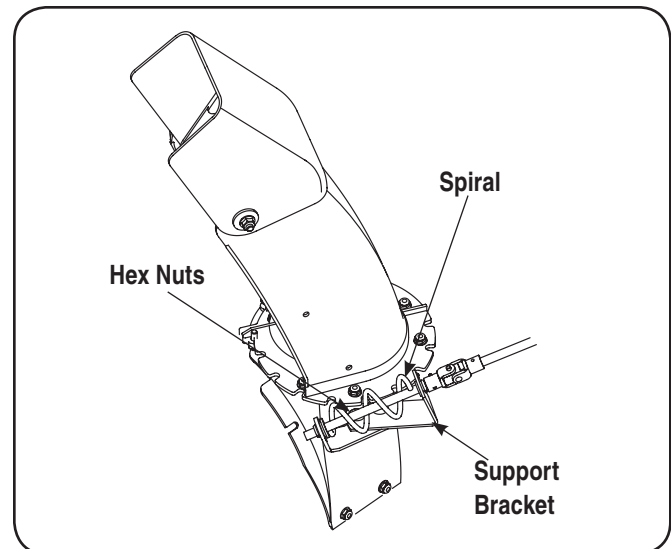

Figure 3-24
1. Loosen, but do NOT remove the two hex nuts which secure the support bracket to the snow thrower housing. See Fig. 3-24.